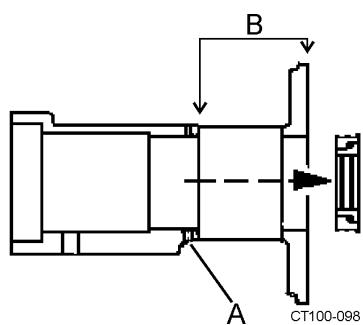

Figure 47 - Remove Setscrews
1. Using an 1/8" hex wrench, loosen the setscrews (Figure 47, item A).
2. Remove the impeller end of the bearing housing (Figure 47, item B).
3. Remove the outer seal ring assemblies (the inner seal ring and O-rings). See Figure 47 and Figure 48.